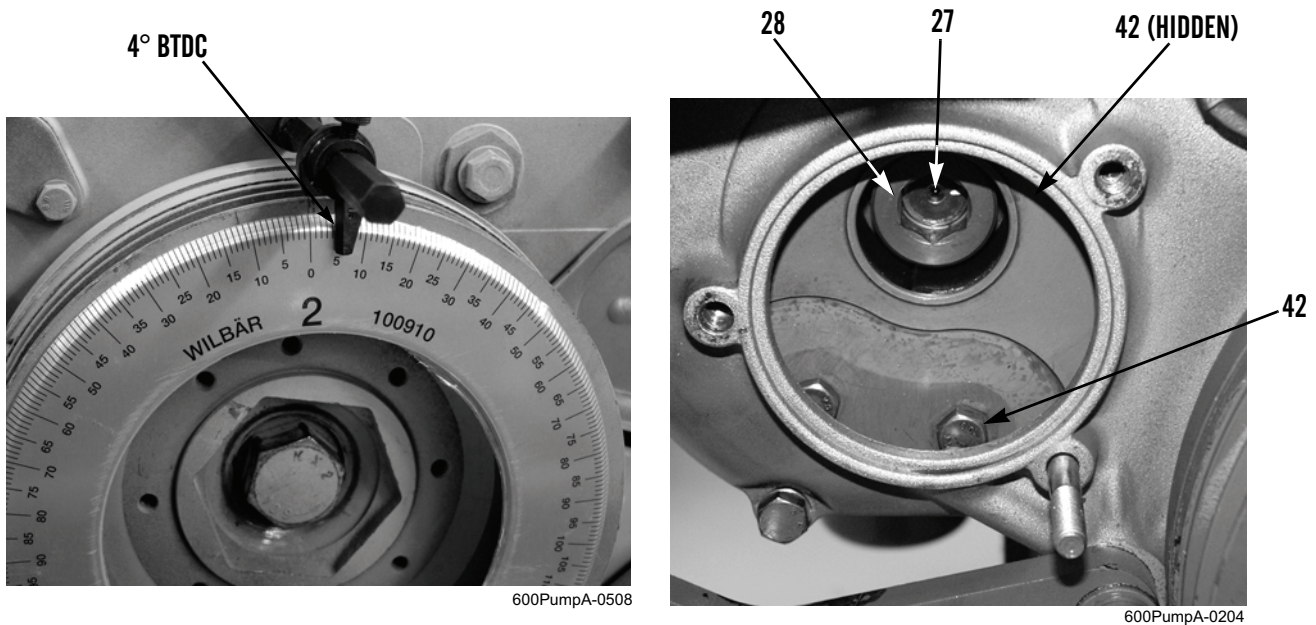

Figure 22. Tensioning Nut and Timing Device Bolts.
13. Hold crankshaft with retainer tool and install tensioning nut (Figure 22, Item 28) on fuel injection pump shaft (Figure 22, Item 27). Tighten tensioning nut to 130 lb-ft (176 Nm).
14. Rotate engine crankshaft 360 degrees clockwise (right) and loosen two upper timing device bolts (Figure 22, Item 42).
15. Rotate engine crankshaft another 360 degrees clockwise (right), stopping at 4° BTDC and loosen two lower timing device bolts (Figure 22, Item 42).
16. Using tensioning nut (Figure 22, Item 28), very slowly rotate fuel injection pump shaft (Figure 22, Item 27), with light hand pressure install positioning pin (Figure 23, Item 39) in fuel injection pump (Figure 23, Item 1) and ensure positioning pin fully seats in recess of fuel injection pump.
17. With positioning pin (Figure 23, Item 39) fully seated in fuel injection pump (Figure 23, Item 1), tighten two lower timing device bolts (Figure 22, Item 42).